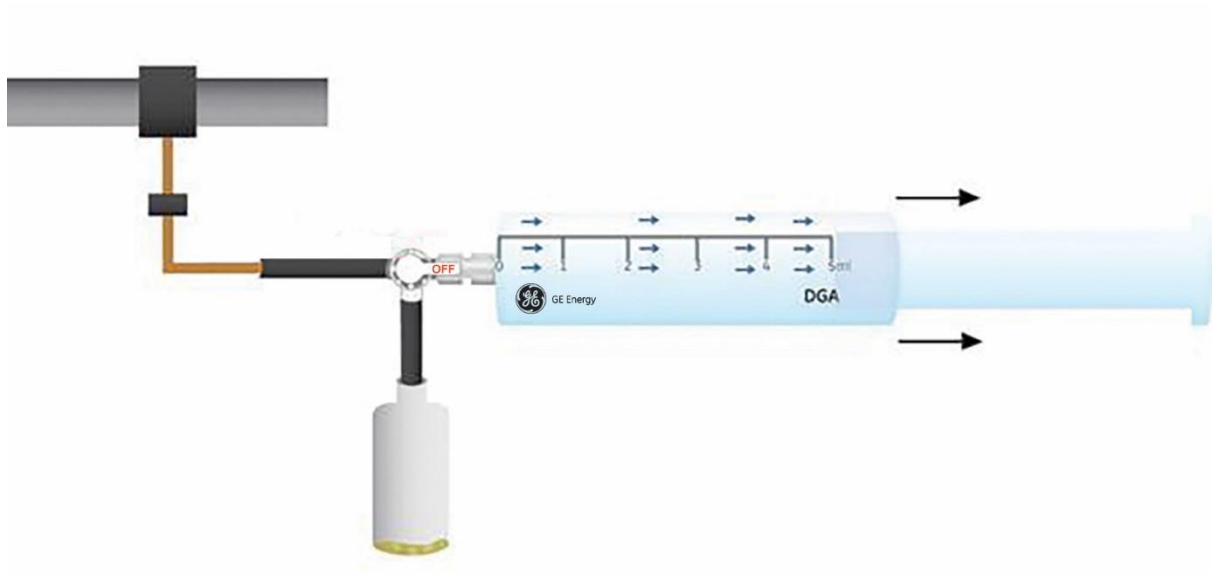

Figure 9-3: Gas sealed in the syringe
4. When the syringe is filled to the 5 ml mark, turn the three-way stopcock again as shown in Figure 9-3 to seal the gas in the syringe ready for injection into the Transport X².